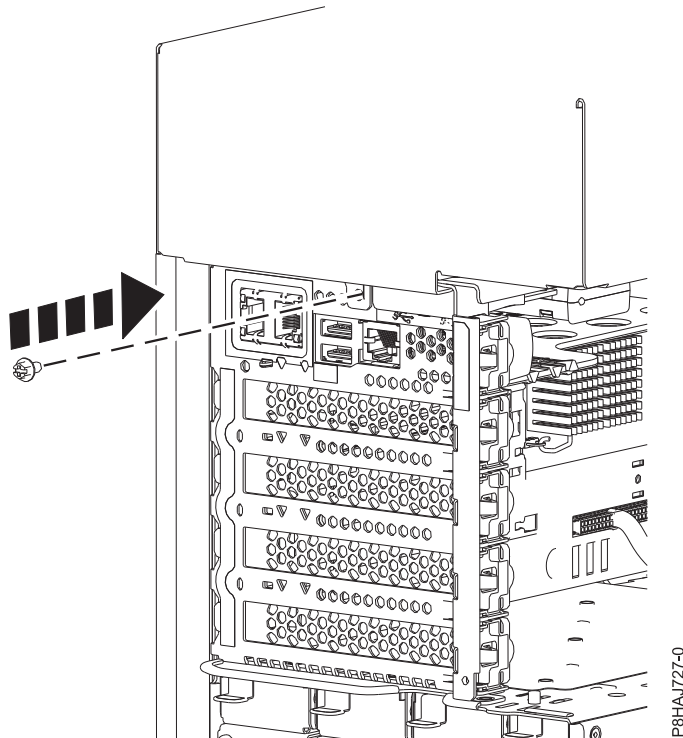

Figure 17. Installing the 8286-41A side cover screw
5. Install the side cover rear screw with a Phillips screwdriver as shown in Figure 17 on page 30.